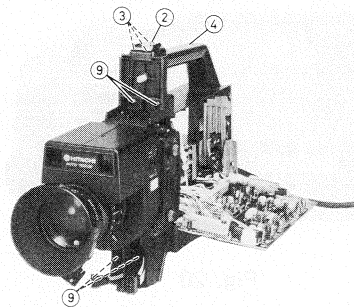

Fig. 17
**6. Lens (Figs. 17, 18, 19)**
2. Remove the accessory shoe screw and then remove the shoe spring (Fig. 17).
3. Remove the 3 screws (Fig. 17).
4. Remove the screw to remove the cover (Fig. 17).
9. Remove the 4 screws to separate the chassis into 2 parts, front and back (Fig. 17).